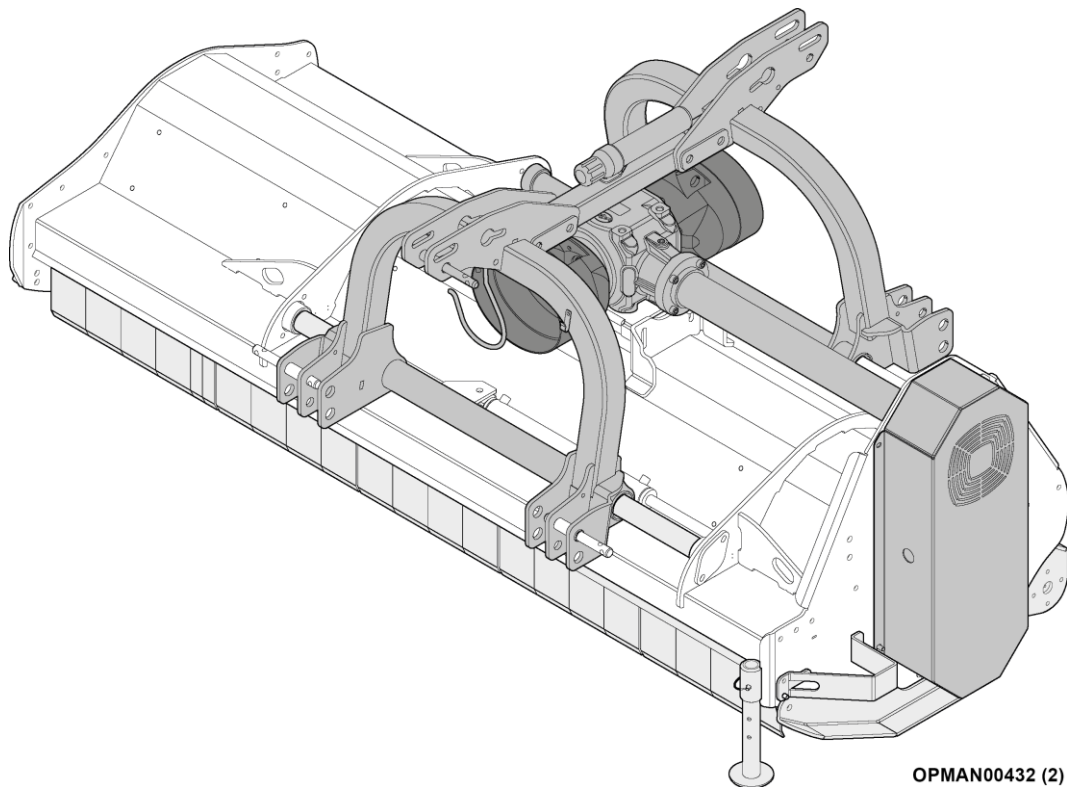

Figure 15
- Use the specific supporting feet in the parking position (Figure 15).